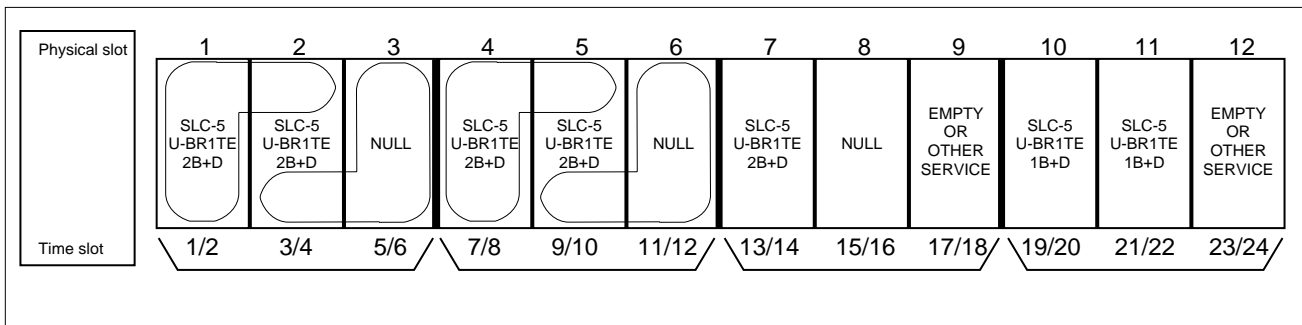

Figure 2. ADTRAN SLC-5 NULL Card Installation Examples
2.1 The SLC-5 NULL card plugs into a single SLC-5 channel slot. **Figure 2** shows placement examples for the ADTRAN SLC-5 NULL card.